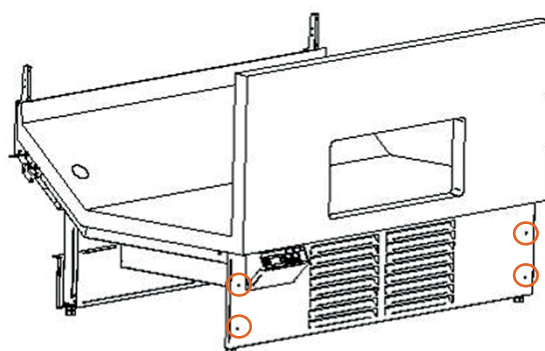

Fig. 32
- Remove the protection panel by removing the screws at the marked points (Fig. 32).